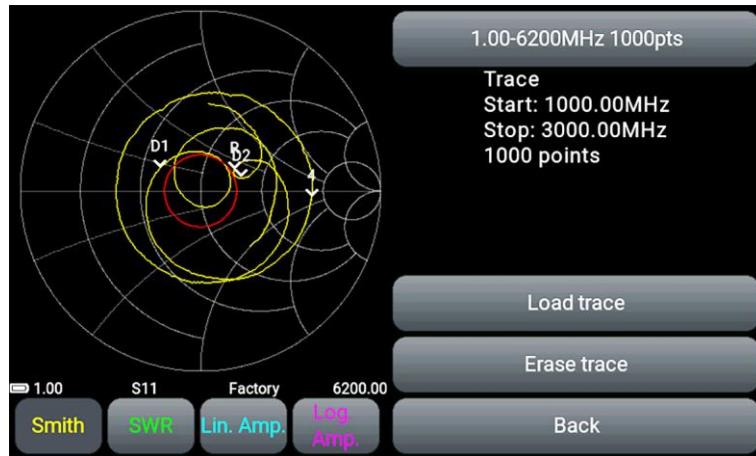

Figure 9.27 - Menu for working with saved traces
9.13.3. By clicking on the button with the saved trace, the user can load the **Load trace** or delete the **Erase trace** (Figure 9.27).